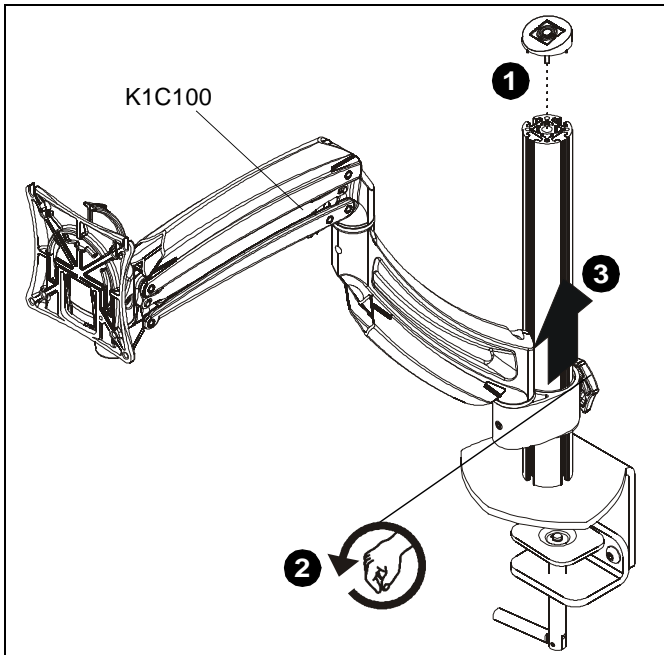

Figure 1
1. Remove top cap from column mount assembly. (See Figure 1)
2. Turn column height adjustment knob counter-clockwise to loosen mount on column. (See Figure 1)
3. Slide mount off of column. (See Figure 1)